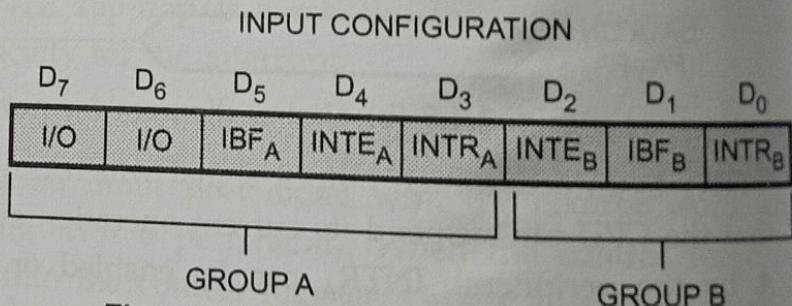

Fig. 3.4.10 Mode 1 status word (Input)
- The status word is accessed by reading Port C (A₁ A₀ must be 10, RD and CS must be low). The status word format when Ports A and B are input ports in Mode 1, is shown in Fig. 3.4.10.